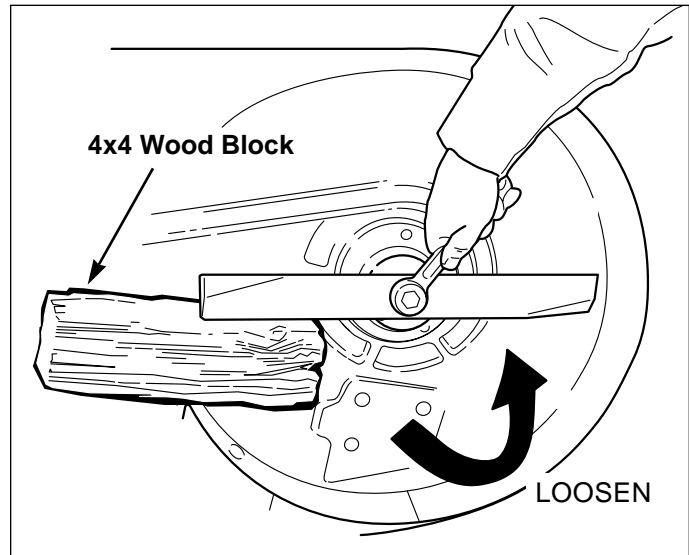

Figure 23. Removing the Blade
3. To remove blade for sharpening, use a wood block to hold blade while removing the blade mounting cap-screw (Figure 23).